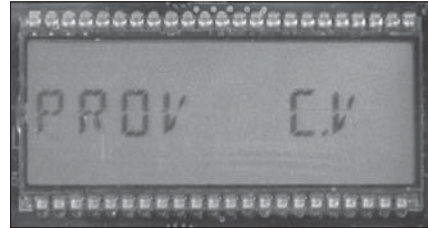

Figure 3 - LCD screen displays PROV C.V
- Using the magnet swipe across the words **ROOTS® ES3 Index** (next to the LCD screen display of the ES3) until the screen displays **PROV C.V** (Figure 3), and then stop swiping.